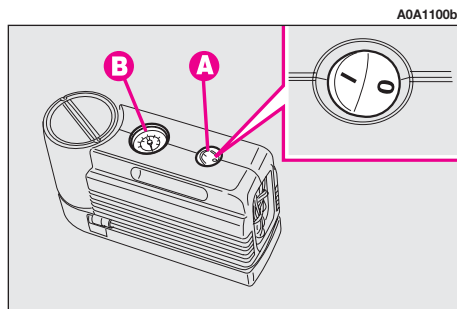
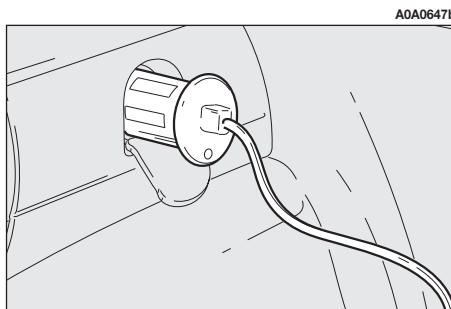

fig. 16
fig. 17
– make sure the compressor switch **A-fig. 16** is set to **0** (off), start the engine and fit plug **A-fig. 17** into the cigar lighter outlet and then turn on the compressor by setting switch **A-fig. 16** to **I** (on);
– inflate the tyre to the correct pressure value. Check tyre pressure on gauge **B-fig. 16** with compressor off to obtain precise reading;